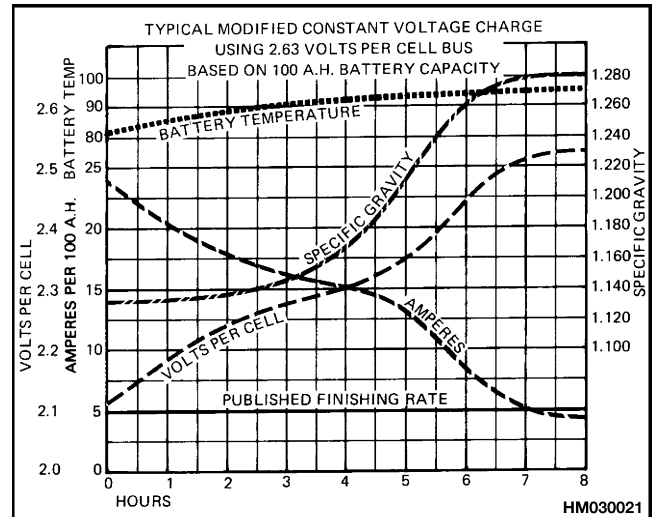

Figure 20. Modified Constant Voltage Charger
2. **MODIFIED CONSTANT VOLTAGE.** This method uses a generator to generate a constant voltage that is controlled by a resistor. When the charging current decreases, the voltage across the resistor increases. The increasing voltage across the resistor causes an increasing voltage at the battery terminals. The charging is similar to the gradual charge. The resistor must be correctly set, or the charging rate will be wrong. The typical graphs for a modified constant voltage charger are shown in Figure 20.